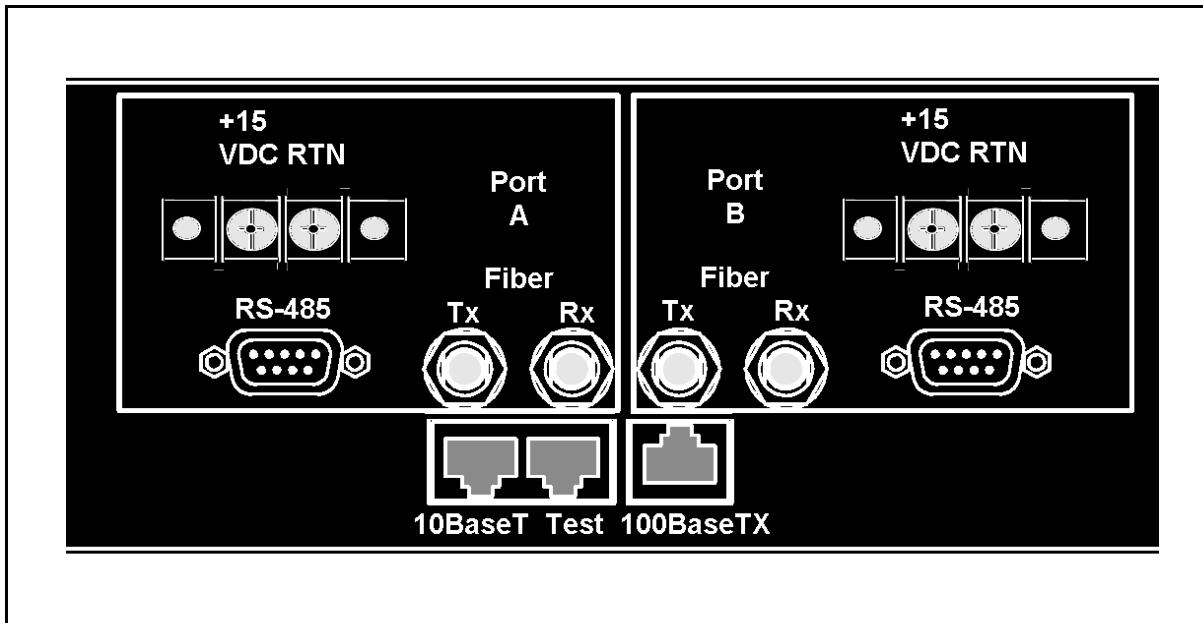

Figure 6-6: Backhaul Router – Output Connections
The Ethernet port is labeled 10Base-T (see Figure 6-6). It is used to connect the Backhaul Router through a Hub to a Cisco (or similar) Network Access Router.
2. Connect the fiber optic cables onto the ST connectors on the rear of the Backhaul Router (see Figure 6-6).
3. Connect the Transmit (TX) output on the rear of the Backhaul Router to the Receive (RX) input in the Tower Top Radio
4. Connect the Receive (RX) input on the rear of the Backhaul Router to the Transmit (TX) output in the Tower Top Radio.
An RJ-45-to-DB-9 adapter is required to connect the Backhaul Router (TEST) to the PC (see Figure 6-6). The cable shown in Figure 6-8 can be used to connect the Backhaul Router to most computers and terminals. Refer to Table 6-5 for connector pin outs.